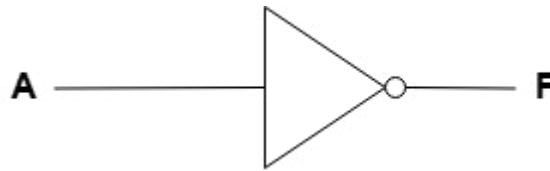

Figure 9.2: Two-input OR Gate
The OR gate represented in Figure 9.2 has two inputs (A and B) and one output (F). Below is a simple table for this two-input AND gate.